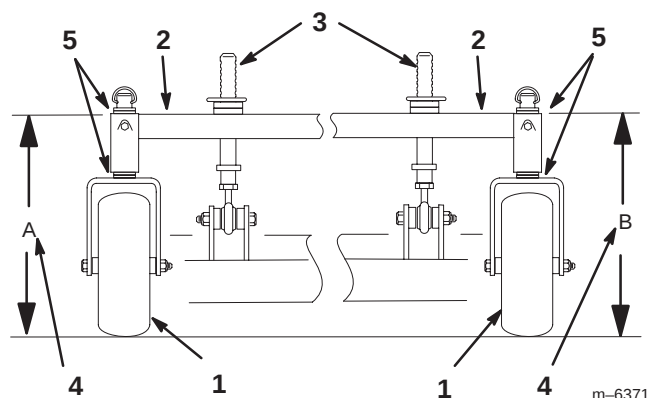

Figure 54
4. Measure carrier frame height at location A (Fig. 54).
5. Measure carrier frame height at location B (Fig. 54).